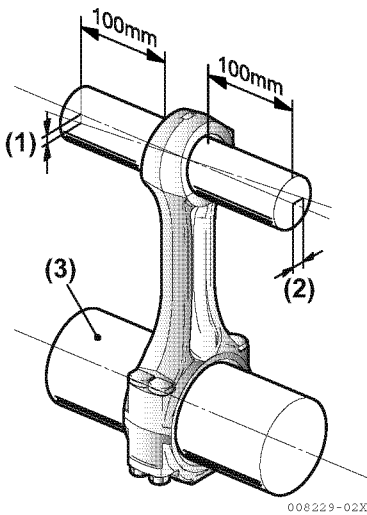

Figure 5-39
1. Insert the appropriate mandrel (Figure 5-39, (3)) into both ends of the connecting rod.